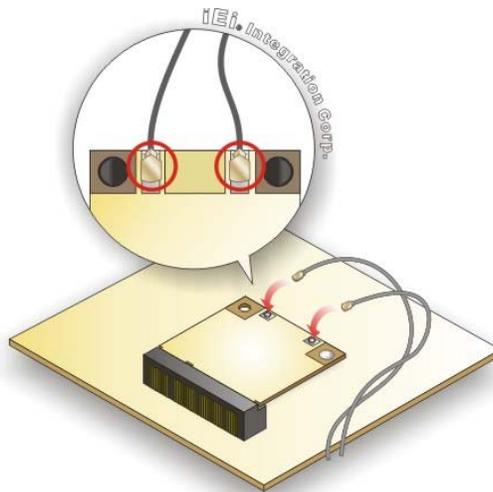

Figure 3-12: Connecting RF Cable
- Step 7:** Connect the RF cable(s) to the antenna connector(s) on the WLAN/WWAN module (**Figure 3-12**).